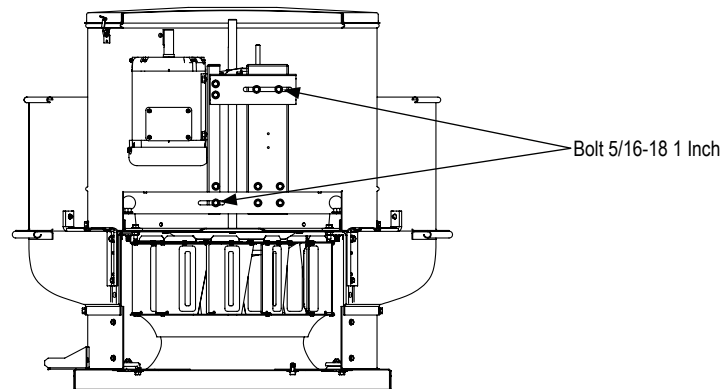

Figure 36 - Belt Tension Adjustment
Tension in the belt can be adjusted by loosening the six fasteners on the drive frame, see Figure 36. Identical fasteners on opposite side must also be loosened. Motor frame be slides away or towards for tightening or loosening the belt respectively.
1. To get better access of the bearing move motor plate to the farthest position (refer Figure 36).